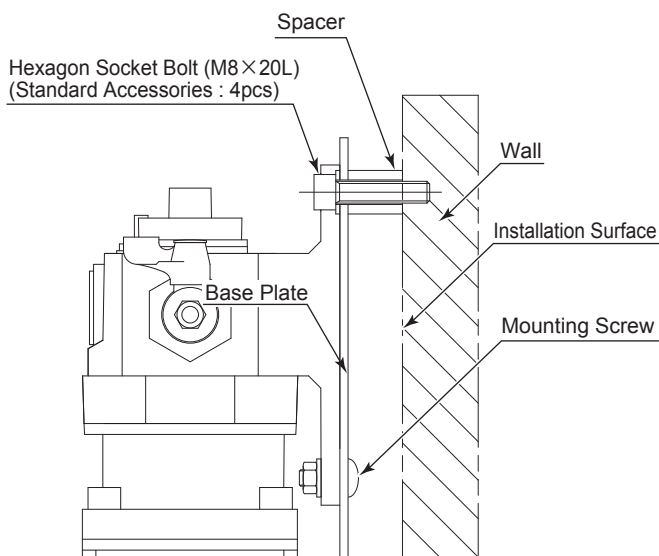

Fig. 8
- ① Stick the Hexagon Socket Bolts (M8×20L) (Standard Accessories : 4pcs) in the holes of the Base Plate and cover the bolt shafts with the Spacers.
- ② Mount it to the vertical wall (Fig.8).
- ③ Make sure that the Hexagon Socket Bolts (M8 × 20L) (Standard Accessories : 4pcs) are firmly fixed to the wall.